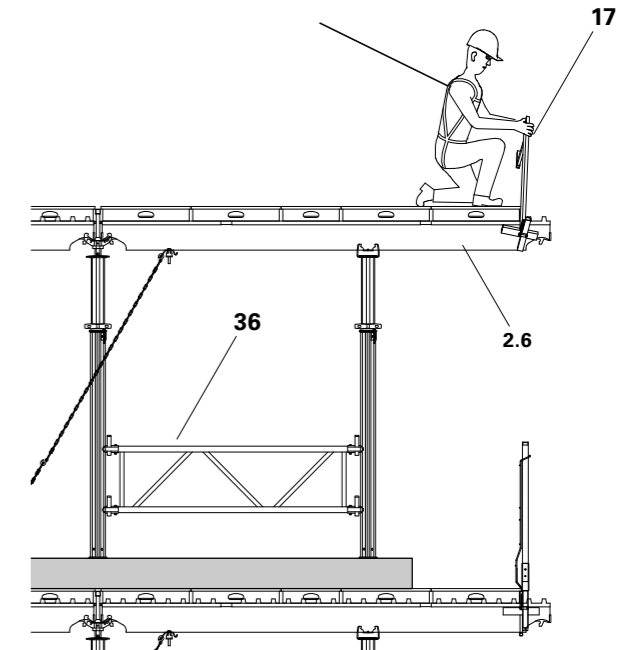
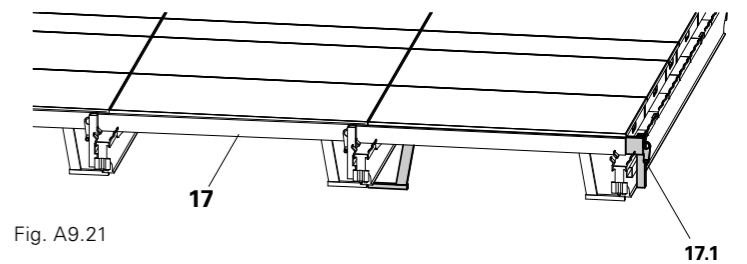

Fig. A9.20
Fig. A9.21
Continuously mount Guardrail Holders SGH (17) between the Main Beams SLT 375 (2.6). (Fig. A9.20)
1. Ensure the internal platform area is suitably restrained against movement by connection to the permanent works (columns) or with use of temporary MULTIPROP Frames MRK (36).
3. Mount all other guardrails holders (17) with the mounting bar pointing to the right. The mounting bars overlap in the first bay. (Fig. A9.21)